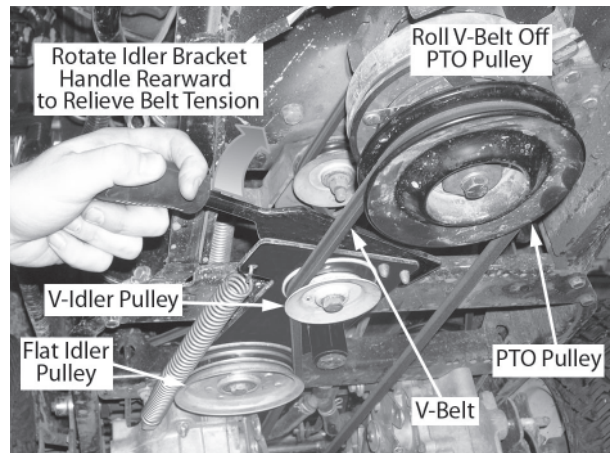

Figure 7-2
- Grasp the idler bracket handle and pivot it rearward to relieve tension from the deck drive belt. Remove the belt from the V-idler pulley and flat idler pulley by pulling the belt downward. Carefully release the idler bracket handle. See Figure 7-2.
- From the left of the PTO pulley, pull the left side of the drive belt downward and roll the belt off the PTO pulley. Refer to Figure 7-2. Use the deck lift lever to fully lower the deck.
- Pivot the idler bracket handle fully rearward and hold in position while routing the backside of the left run of the V-belt around the inside of the flat idler pulley. Refer to Figure 7-2.
- From the left side of the tractor, grasp the idler bracket handle and pivot it rearward to relieve tension from the deck drive belt. Remove the belt from the V-idler pulley and flat idler pulley by pulling the belt downward. Carefully release the idler bracket handle. See Figure 7-2